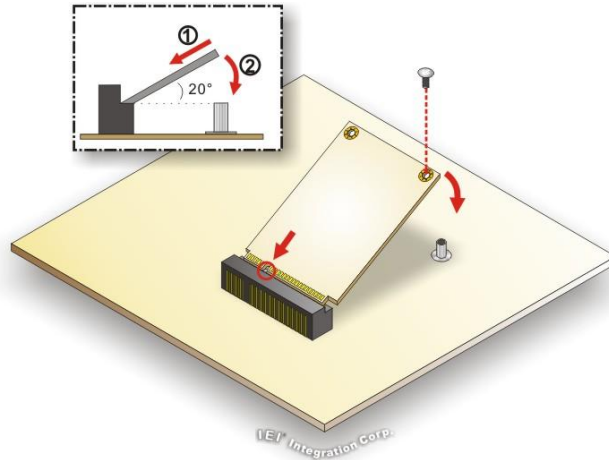

Figure 3-3: M.2 Module Installation
Step 4: Push the other end of the M.2 module down and secure the module with the previously removed retention screw (**Figure 3-3**).